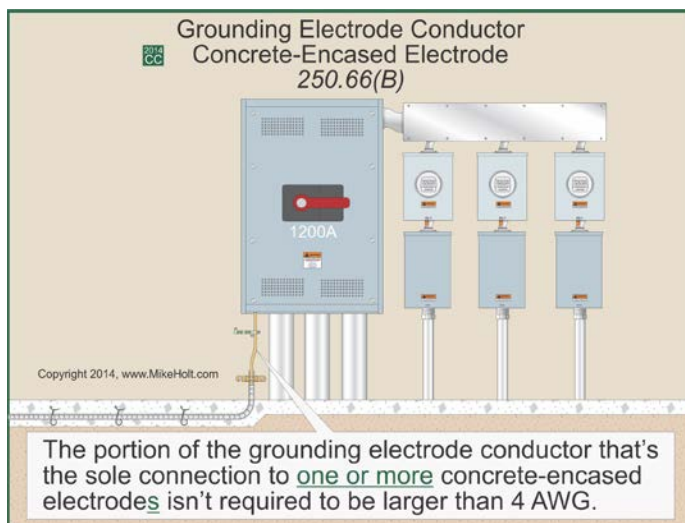

Figure 250-61
- If the grounding electrode conductor is connected to a concrete-encased electrode(s), the portion of the conductor that's the sole connection to the concrete-encased electrode(s) isn't required to be larger than 4 AWG copper [250.66(B)]. **Figure 250-61**